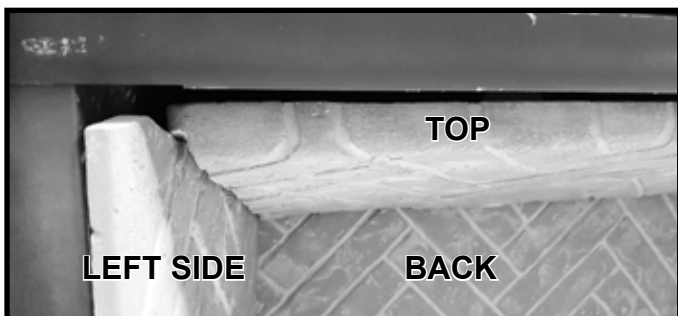

Figure 11.5 Install Top Refractory Panel - Left Side Shown
6. Install the top refractory panel by placing onto the left and right side refractory pieces as shown in Figure 11.5 and sliding toward the rear of the firebox.